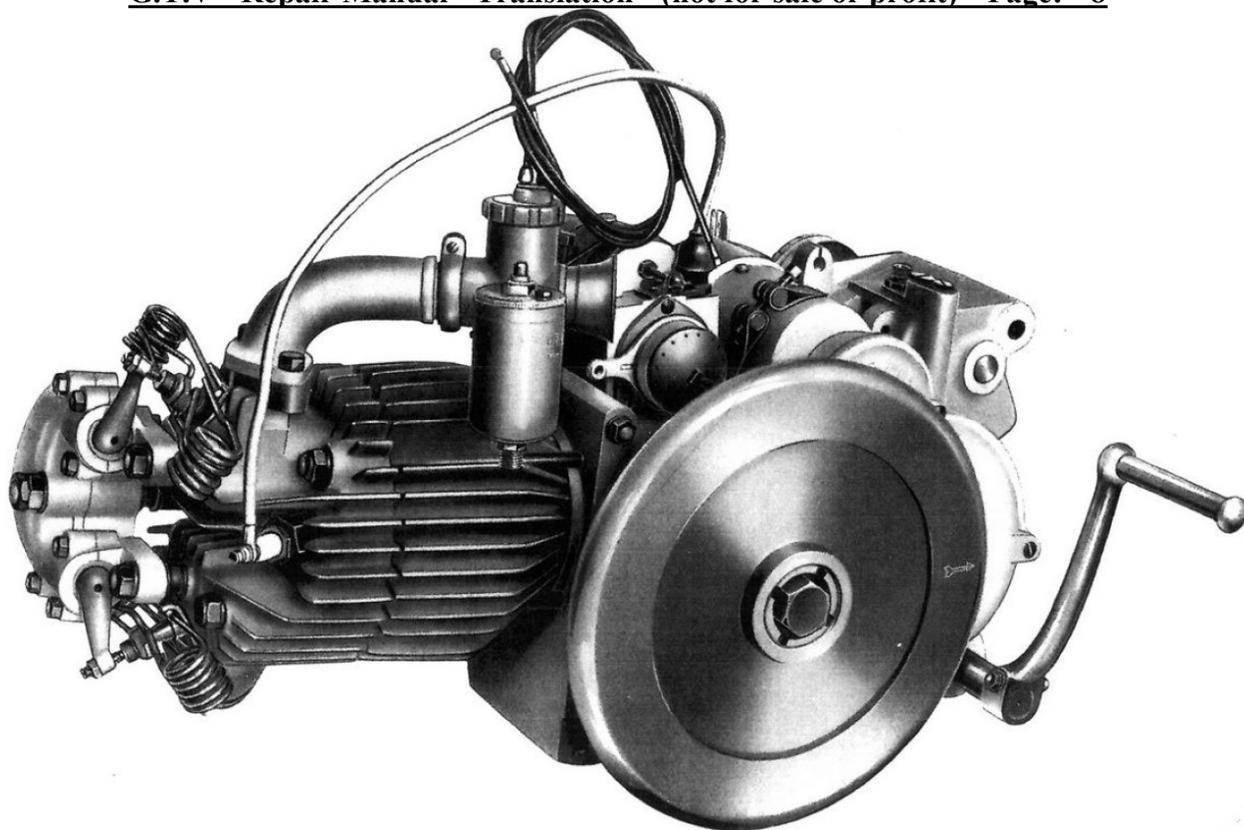

Fig. 5 – Engine unit – flywheel side
- Figure 5- G.T.V. Unit motor (flywheel side).